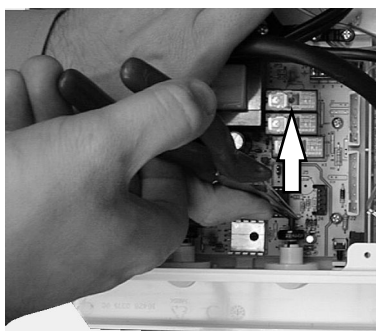

Figure 10
- 3) Remove the spindles of the c.h. temperature adjustment knob by delicately pulling it with pliers in the direction shown by the arrow in Figure 10.